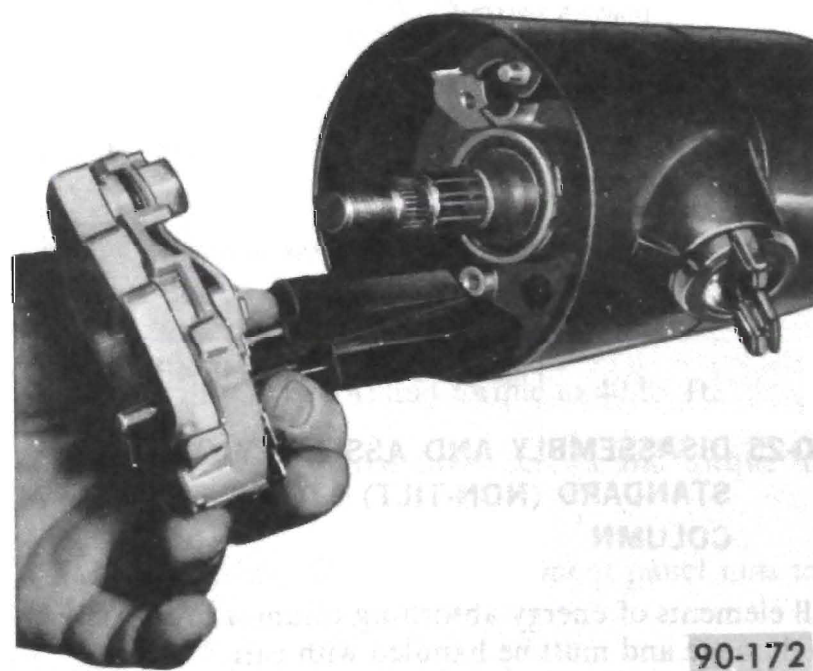

Figure 90-86 Removing Turn Signal Switch and Wires
9. Pull the switch straight up with wire protector. See Figure 90-86.